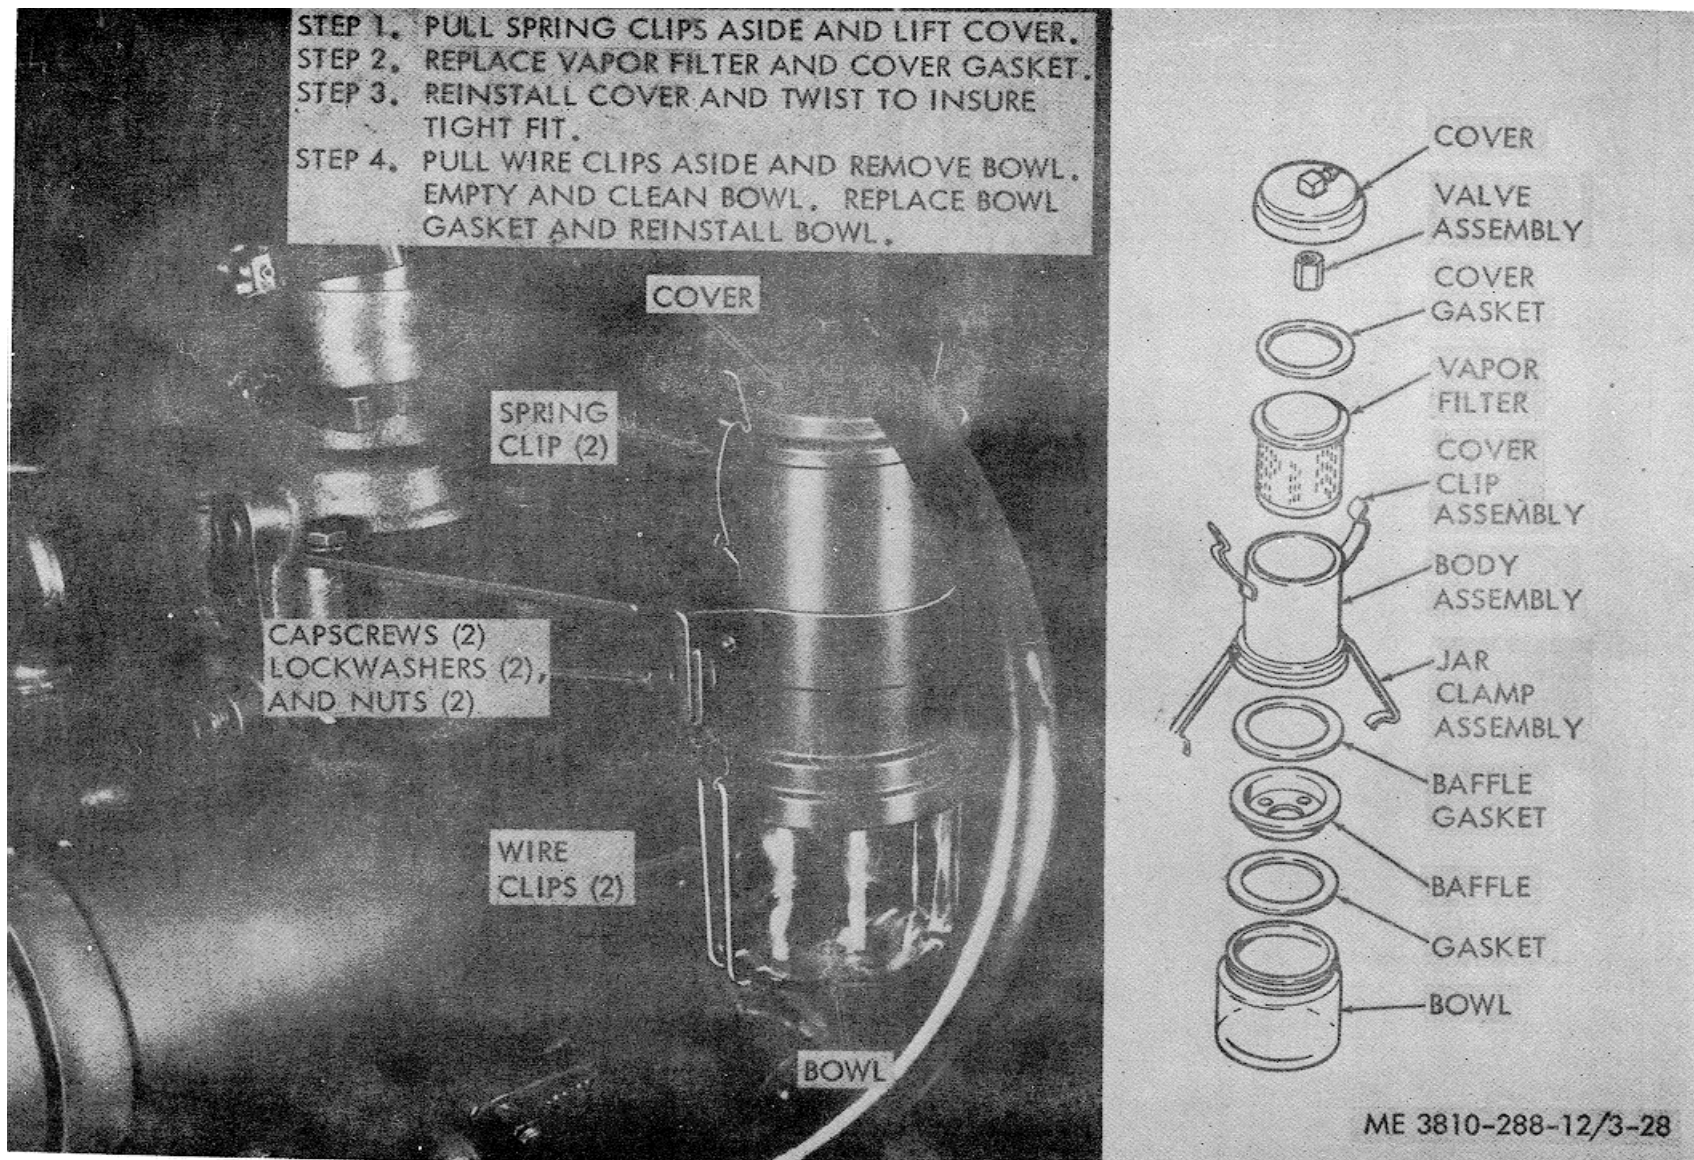

Figure 3-28. Oildex filter, service and replacement.
of the Oildex filter with a solvent when replacing filter elements or servicing the unit. Refer to figure 3-28 and service the Oildex filter.
(2) *Replacement.* The Oildex filter can be replaced by loosening the spring clips which secure the top cover, unscrewing the hose connections to the rear of the body assembly, and removing the two capscrews, lockwashers, and nuts which secure the mounting strap, as shown in figure 3-28.
(a) Remove bolts and lockwashers which secure the thermostat housing to the base (fig. 3-48). Note that the Oildex filter will be removed from its mounting on the thermostat housing by removing these bolts. Refer to figure 3-28.